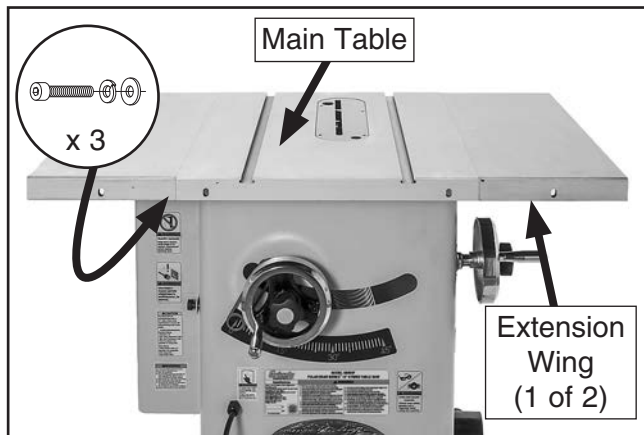

Figure 20. Extension wings installed.
7. While a helper holds wings in place, attach each extension wing to main table with (3) M10-1.5 x 30 cap screws, 10mm lock washers, and 10mm flat washers removed in **Step 5** (see **Figure 20**).